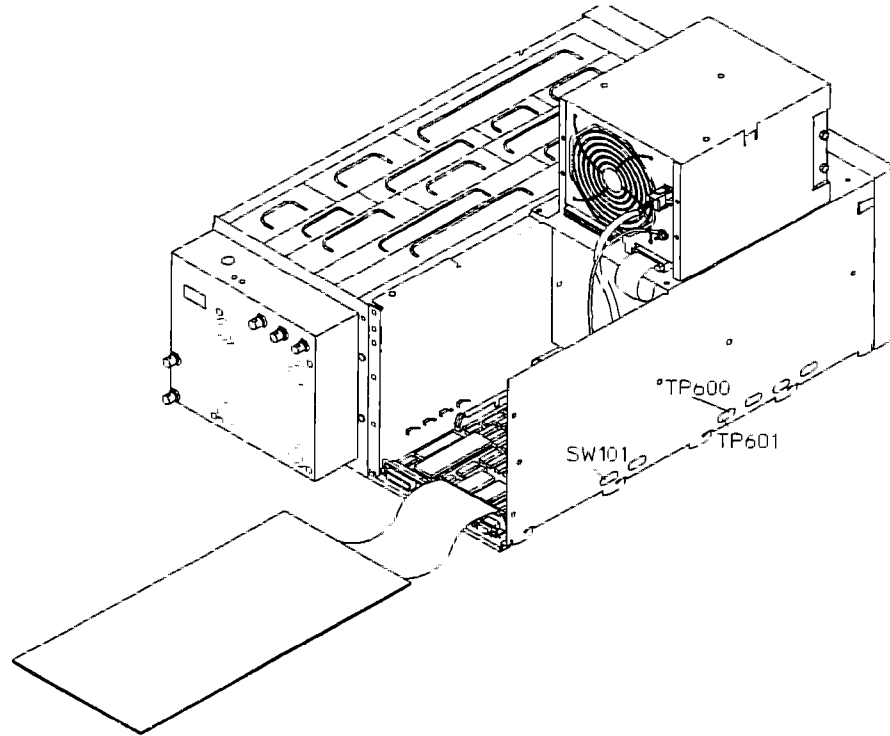

Figure 5-11. IIC Bus Test Locations
4. Set the power switch to ON (I). Press SW101 (reset switch) while monitoring TP600 (SCL) and the power-on test LEDs (see figure 5-11). If the CPU assembly is operating correctly, the TTL logic level at TP600 toggles once when 00 is displayed and again when A1 is displayed.
7. Set the power switch to ON (I). Repeat steps 3, 4, and 5 to check that the front panel is not causing the failure.
8. Set the power switch to STANDBY (O). Connect the motherboard power cable (W12) to J2 on the Power Supply assembly.